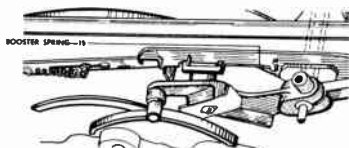
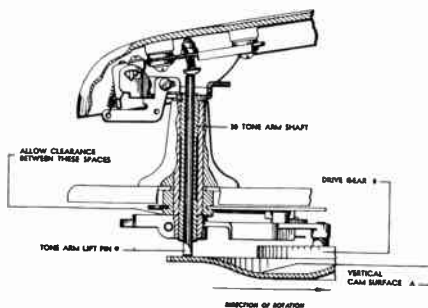

Figure SE8.
Figure SE9.
10. Needle Jumps Grooves: (a) worn, broken or improper needle. Replace with new, approved needle; (b) booster spring too strong. Relax booster spring 15 pressure slightly bending outward (See figure SE8). NOTE: Booster spring does not operate after first 1/2" of record; (c) vertical friction. Examine tone arm hinge 34 for binds while moving arm up and down. The shielded wire emerging from back of tone arm should be draped so as to allow free movement of the arm; (d) lateral friction. Examine tone arm shaft 30 for insufficient vertical clearance and reset as required. See figure SE9) The shielded wire emerging from back of tone arm should be draped so as to allow free movement of the arm.